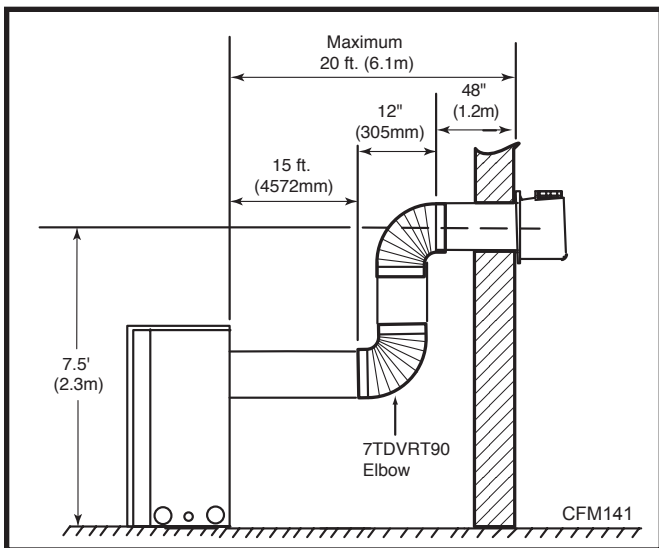
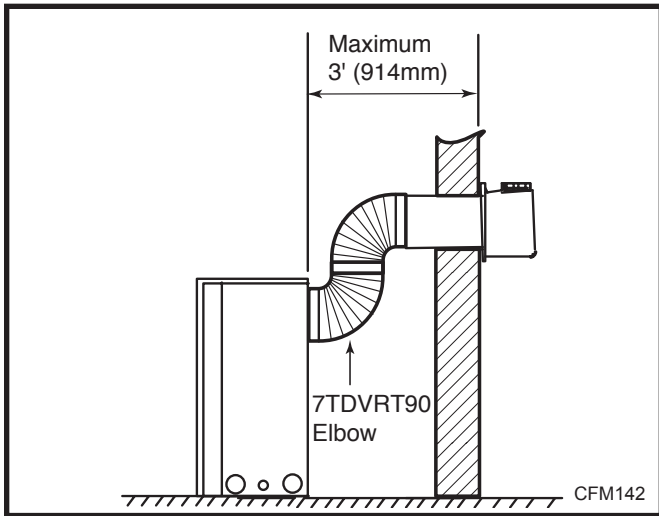
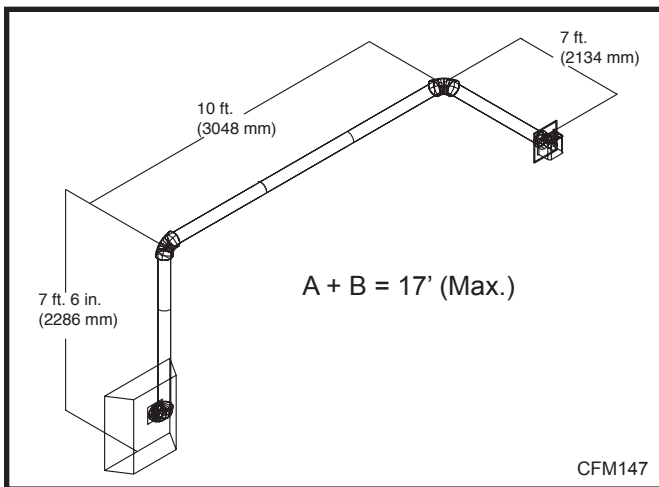

Fig. 20 Maximum number of 90° elbows is three (3).
Fig. 21 Maximum horizontal vent run.
Fig. 22 Maximum vent run with elbows.
- The maximum horizontal vent run is 20 ft. (6.1 m) when the vertical vent rise is 7½ ft. (2.3 m). (Fig. 20)
- The maximum number of 90° elbows per side wall installation is three (3).
- If a 90° elbow is used in the horizontal vent run (level height maintained) the maximum horizontal vent length is reduced by 36" (914 mm). (Fig. 21) This does not apply if the 90° elbows are used to increase or redirect a vertical rise. (Fig. 22)
Example: According to the chart the maximum horizontal vent length in a system with a 7.5' (2.3 m) vertical rise is 20' (6 m) and if a 90° elbow is required in the horizontal vent it must be reduced to 17' (5.2 m). In Figure 21 Dimension A plus B must not be greater than 17' (5.2 m).